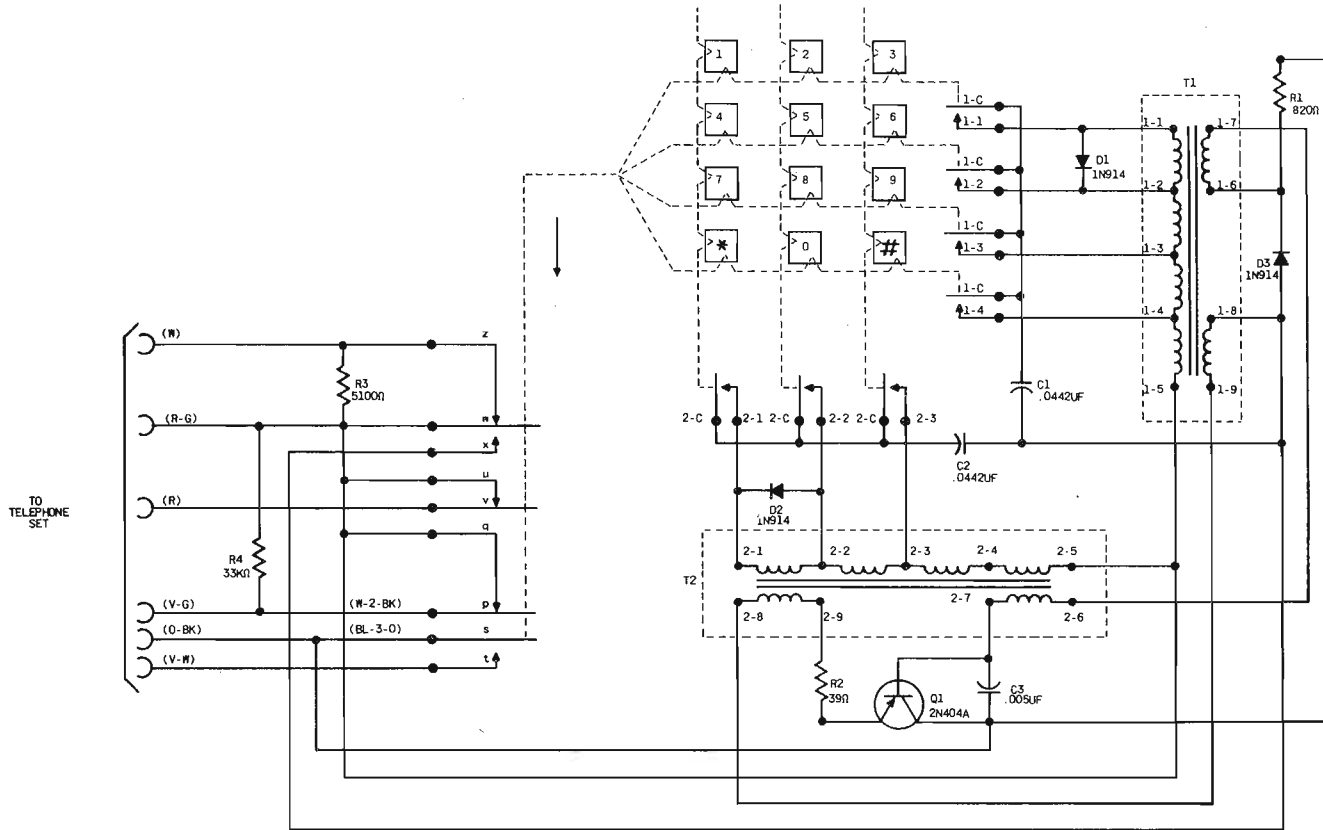

Fig. 5 — NE-35Q3B and NE-35Q3L Dials Schematic (MD)
- Fig. 5 – NE-35Q3B and NE-35Q3L Dials Schematic (MD)